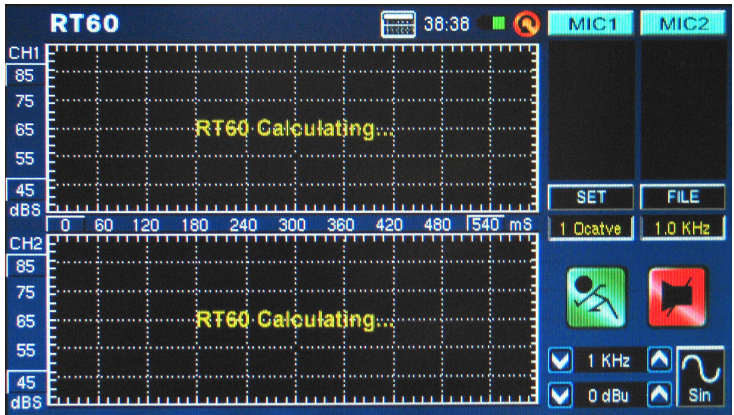

figure 40
7. After the measurement is taken, the RT60 measurement graph will appear onscreen (figure 40, and 41).